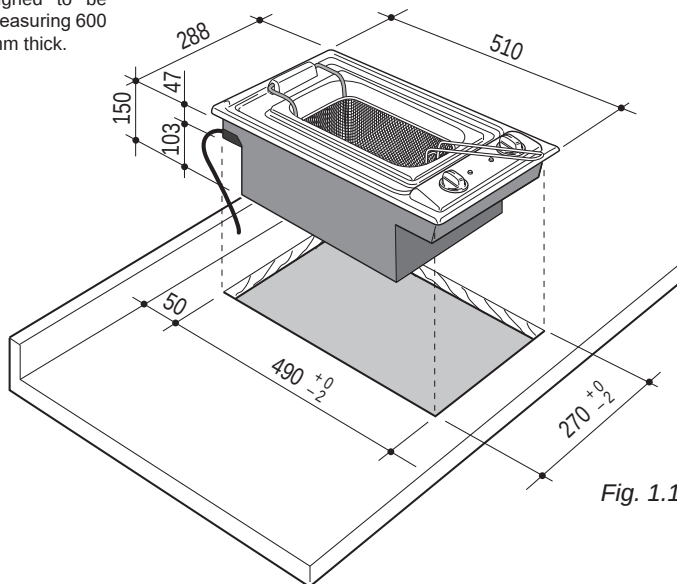

Fig. 1.1
In order to install the cooker top into the kitchen fixture, a hole with the dimensions shown in fig. 1.1 has to be made, keeping in consideration the following:
- the wall behind the cooktop must be at least 50 mm away (fig. 1.1);